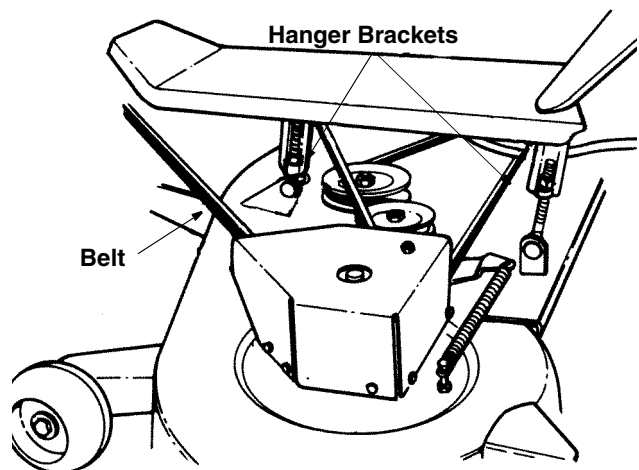

Figure 9
- Lift up on the edge of the deck and hook up the left front deck hanger to the deck using a flat washer and hairpin clip. Make sure deck hanger goes through the center of V-Belt. See Figure 9.